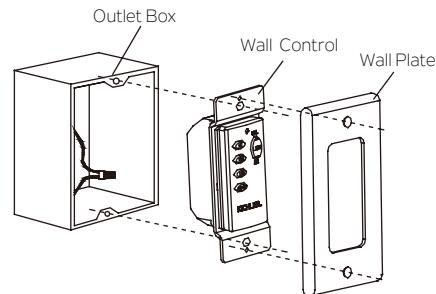

Fig. 26
**Step 2.** Use the screws provided to secure the wall control to the outlet box. (Fig. 26)